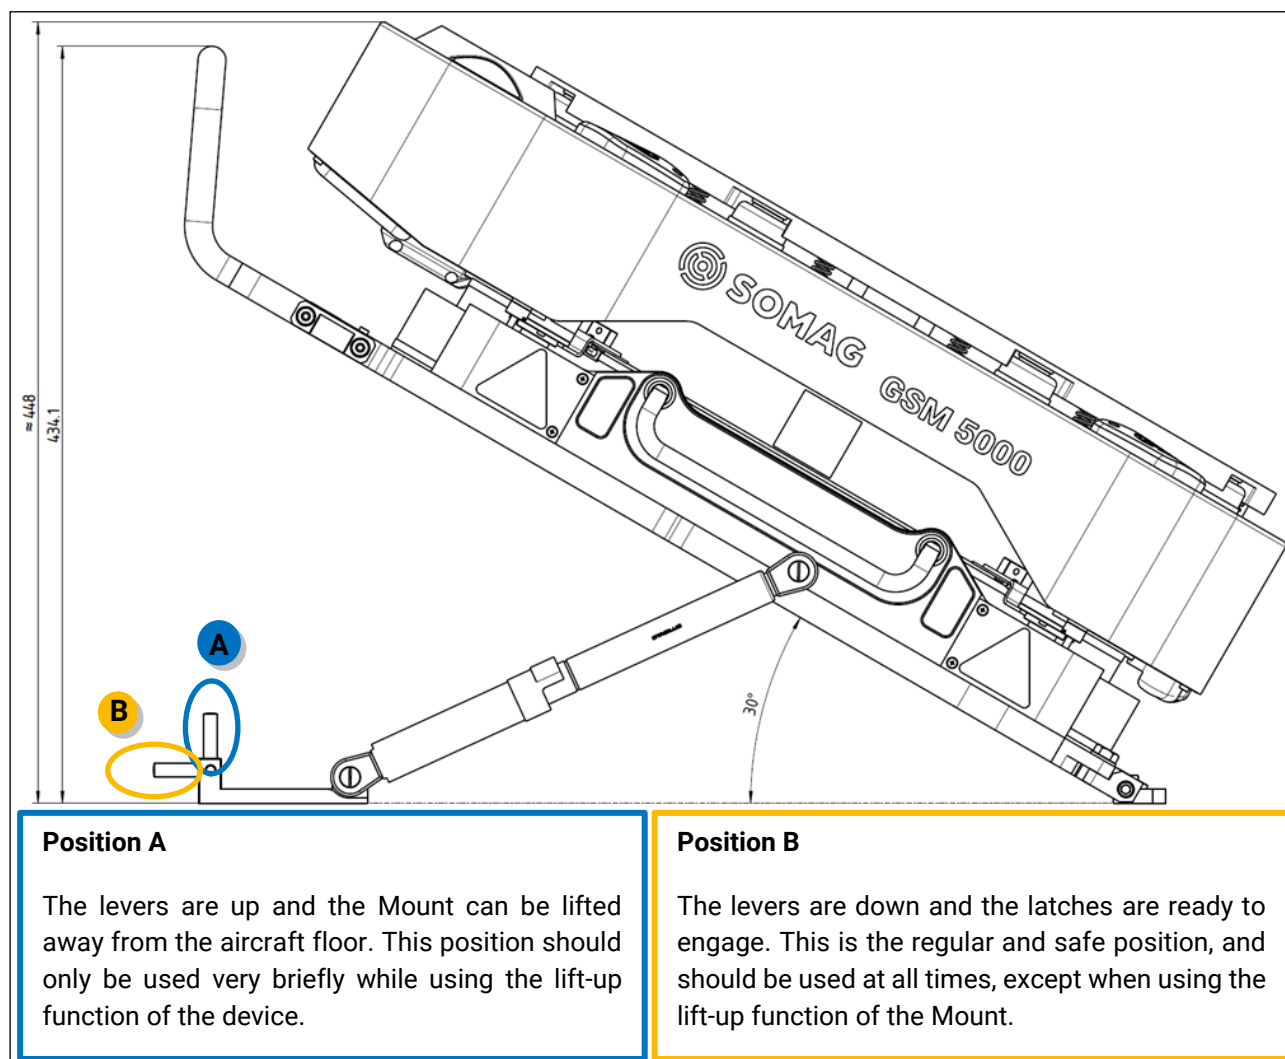

Figure 12: GSM 5000 lift-up-function (optional)
With the Optional Installation, the GSM 5000 can be lifted from one side in order to access the payload from below as shown in Figure 12.
- Using this function requires an additional 65 mm of space on the back of the GSM 5000 (see Figure 12)! It should also be ensured to have enough space for the payload, so that it doesn't get damaged. Before lowering the Mount, make sure that the levers are down / horizontal. You will likely squeeze your hands otherwise.